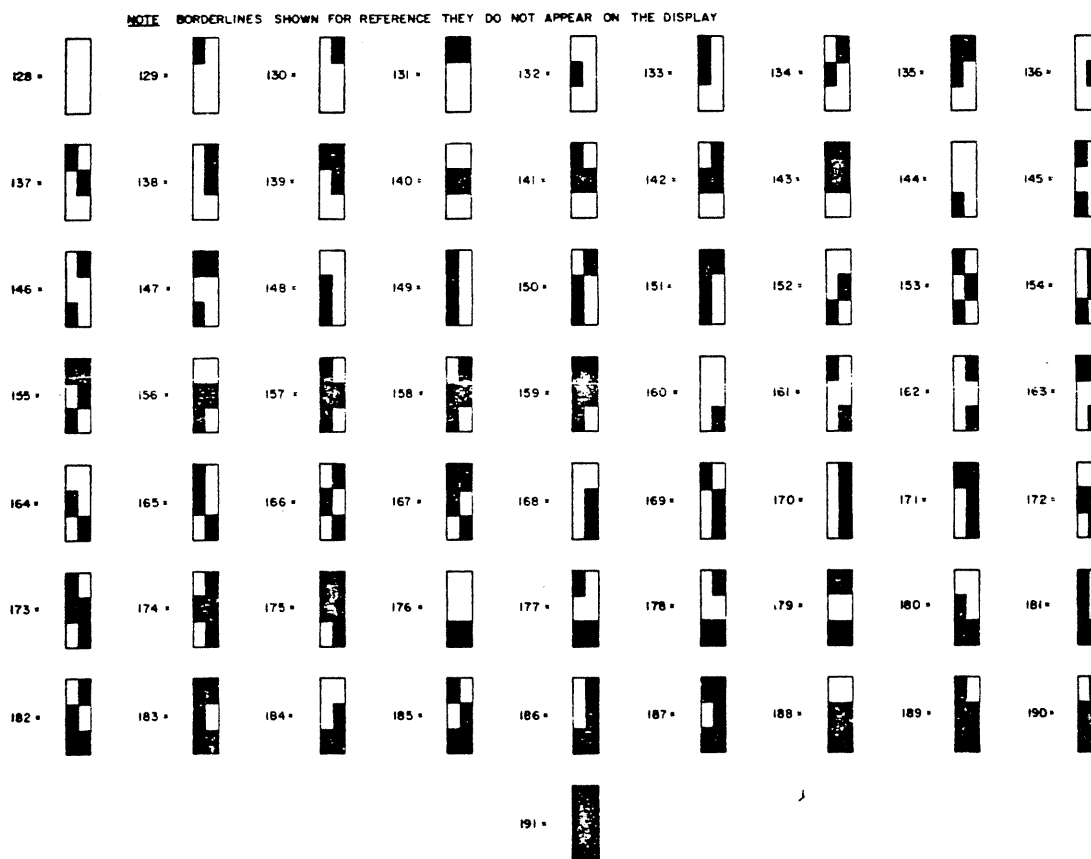
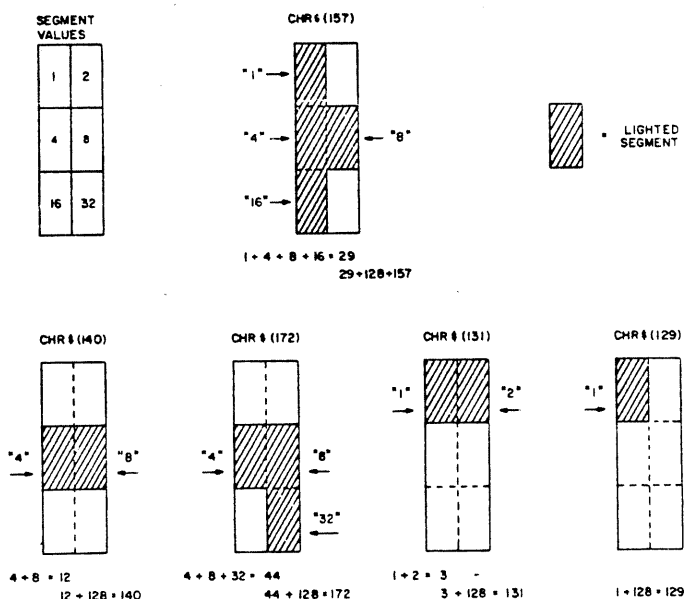

Fig. 2. TRS-80 graphic code. (■ = lighted segment)
Fig. 3 Cracking the code.
Fig. 2 shows the graphic code for each of the possible 64 segment "on" combinations, from "all segments off" (128) to "all segments on" (191). These are used in a program as CHR\$(number). For example, if you used CHR\$(157) in a program after a PRINT instruction, you'd light all column 1 segments as well as the column 2 segment if row 2 at the current printing location. As another example, CHR\$(140) lights both columns of row 2 at the current printing location.
Actually, this graphic code is based on a binary code and is easy to remember if you crack the code. Look at Fig. 3. Notice that each of the six segments in a printing location is assigned a decimal number representing the powers of 2. Going from left to right, and from top to bottom, starting with 1, each number is exactly twice the previous number. This is the basis of binary counting.
To determine the TRS-80 graphic code number, just add the numbers of each lighted segment, and then add 128! Fig. 3 shows some examples. Now you won't have to have Fig. 2 handy all the time, since you'll be able to quickly determine the number you want for every one of the possible 64 combinations. Remember, 128 is a total